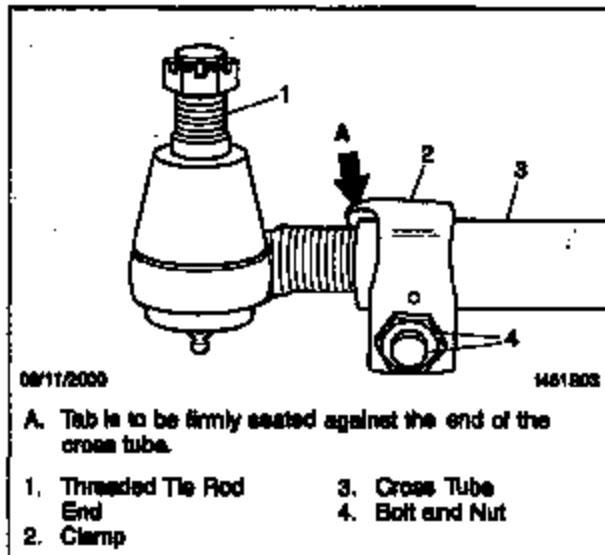

Fig. 6, Cross Tube Clamp
- Check that the tab on the clamp is firmly seated against the end of the cross tube. See Fig. 6.